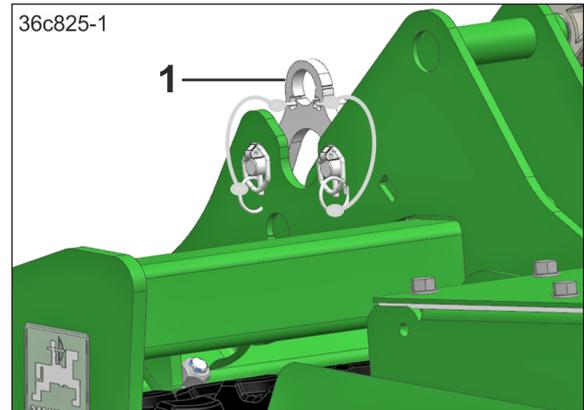

Fig. 126
1. Remove the coupling pieces (Fig. 126/1).